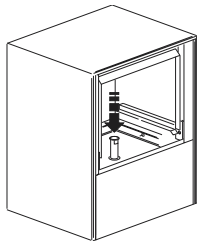

fig. 2
- Insert the overflow tube in the special seat inside the tub (fig.2)